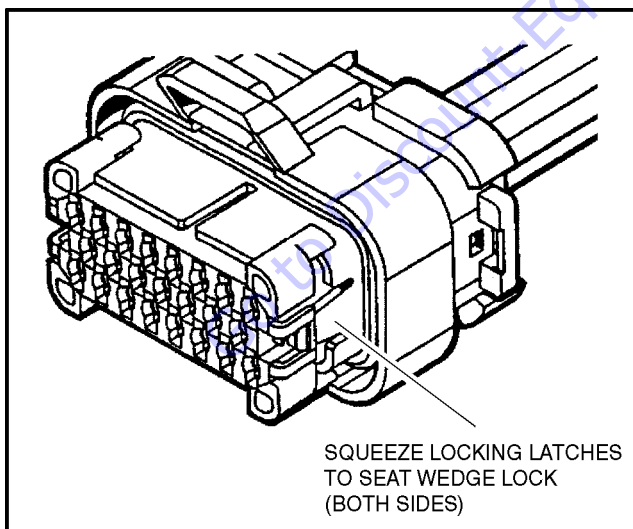

Figure 8-4. Connector Assembly Figure 3
3. After all required contacts have been inserted, the wedge lock must be closed to its locked position. Release the locking latches by squeezing them inward (See Figure 8-4.).